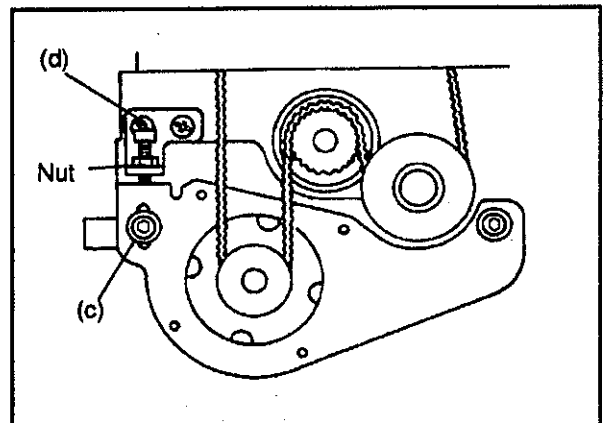

FIG.3
- (2) Loosen the nut and turn adjustment screw (d) Secure the nut after adjustment (Fig.3).
- (3) Tighten retaining screw (c) (Fig.3).